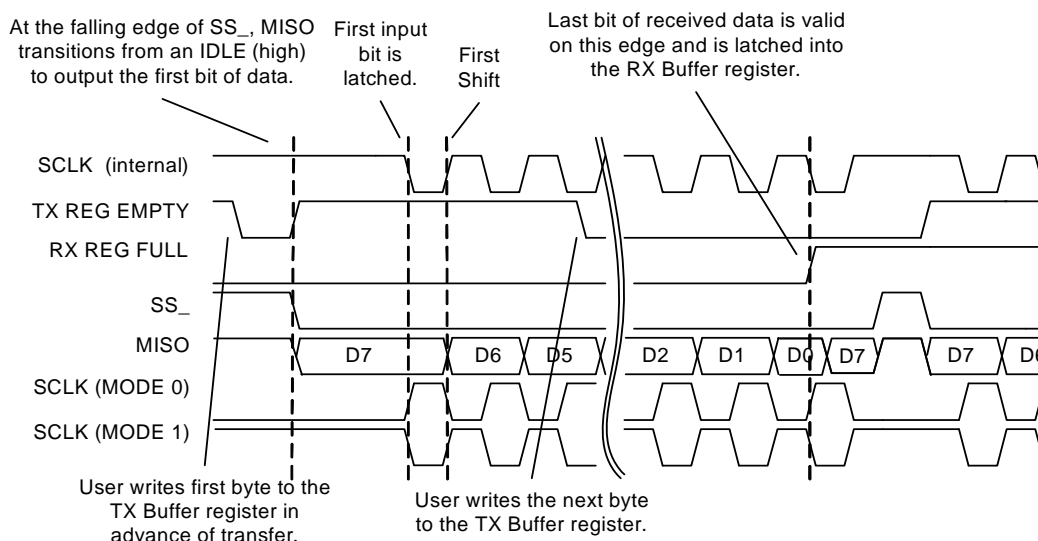
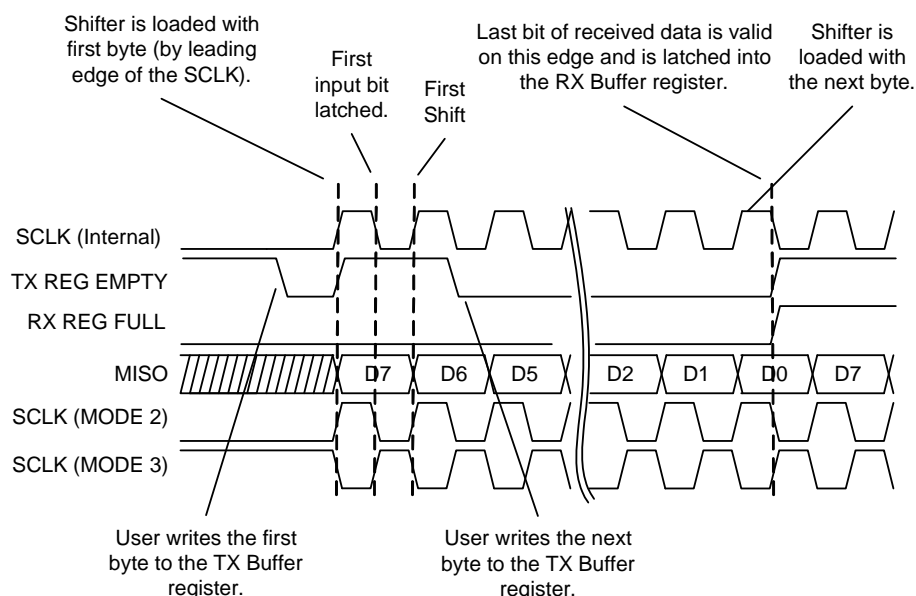

Figure 17-20. Typical SPIS Timing in Modes 0 and 1
Figure 17-21. Typical SPI Timing in Modes 2 and 3
**Normal Operation.** Typical timing for a SPIS transfer is shown in Figure 17-20 and Figure 17-21. If the SPIS is primarily being used as a receiver, the RX Reg Full (polling only) or SPI Complete (polling or interrupt) status may be used to determine when a byte has been received. In this way, the SPIS operates identically with the SPIM. However, there are two main areas in which the SPIS operates differently: 1) SPIS behavior related to the SS\_ signal, and 2) TX data queuing (loading the TX Buffer register).